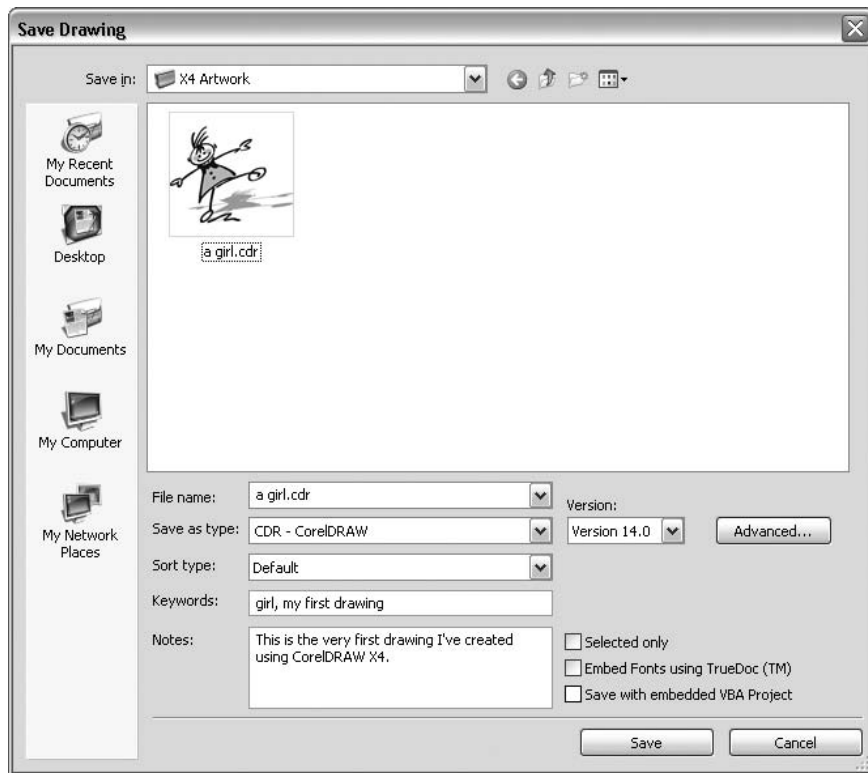

FIGURE 3-3 The Save Drawing dialog can save a file with user information and other options.
1. If you've just started a new document and want to save it, click the Save button in the Standard Toolbar, use the CTRL+S shortcut, or choose File | Save. Each results in opening the Save Drawing dialog, as shown in Figure 3-3.